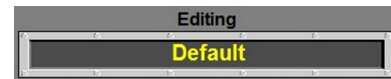

Figure 3-39 Recipe Editing display
**Editing.** The Editing box displays the recipe currently loaded into the Recipe editor, Figure 3-39.